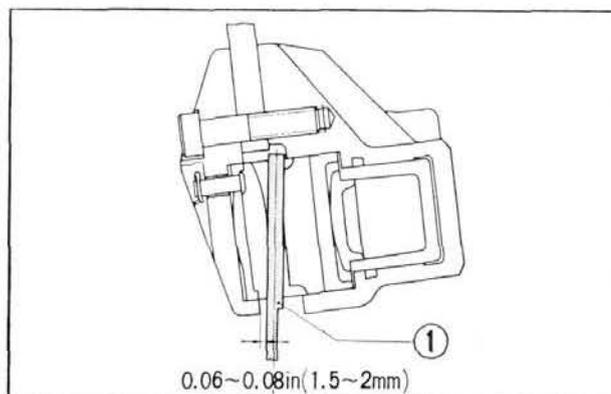

Fig. 19-19 ① Brake disc
- (1) Check the wear of the front brake friction pads by measuring the clearance between the front of the caliper and brake disc face by means of a thickness gauge. If the clearance becomes less than **0.08 in (2.0 mm)** both friction pads should be replaced with new Honda genuine replacement pads as a set. (Fig. 19-19)